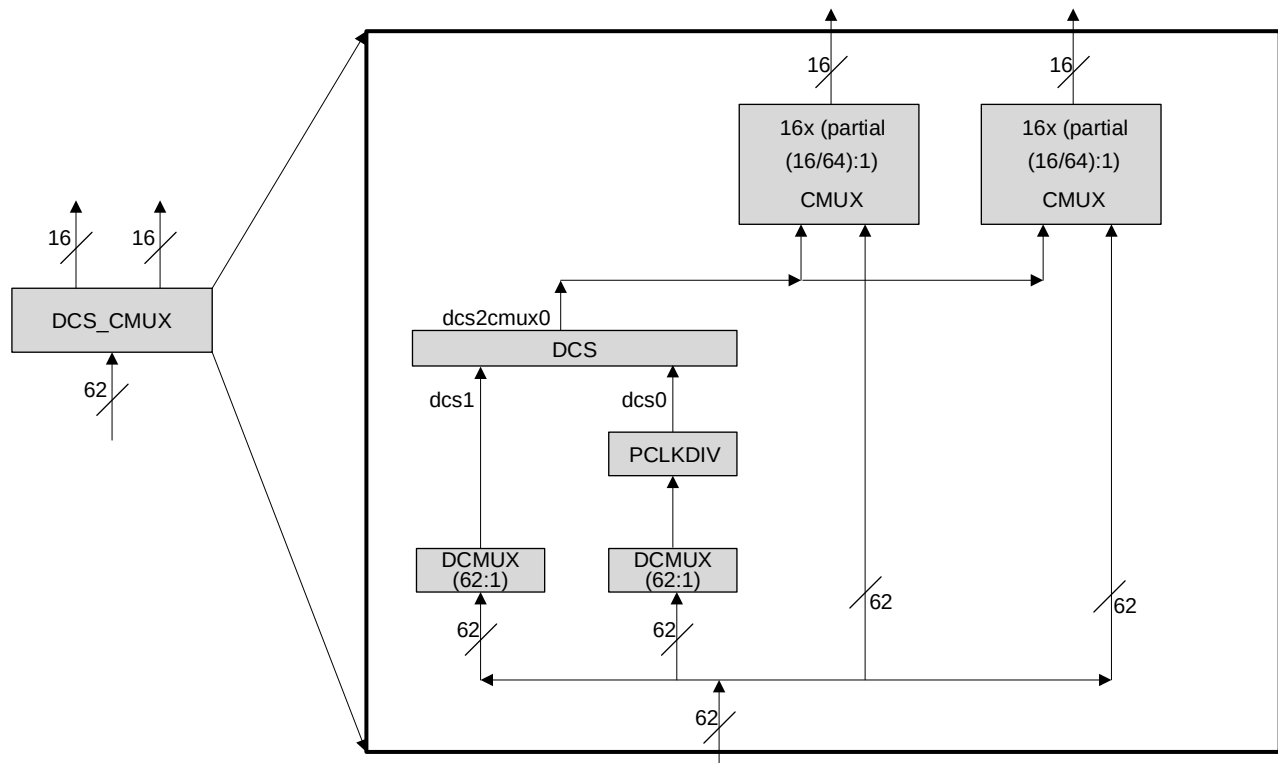

Figure 2.9. DCS_CMUX Diagram
The PCLKDIV supports $\div 2$, $\div 4$, $\div 8$, $\div 16$, $\div 32$, $\div 64$, $\div 128$, and $\div 1$ (bypass) operation. The PCLKDIV is fed from a DCSMUX within the DCS_CMUX block. The clock divider output drives one input of the DCS Dynamic Clock Select within the DSC_CMUX block. The Reset (RST) control signal is asynchronous and forces all outputs to low. The divider output starts at next cycle after the reset is synchronously released. The PCLKDIV is shown in context in Figure 2.9.
All clock sources are selected and combined for primary clock routing through the Dynamic Clock Selector Center Multiplexer logic (DCS_CMUX). There are one (1) or two (2) DCS_CMUX blocks per device. Each DCS_CMUX block contains 2 DCSMUX blocks, 1 PCLKDIV, 1 DCS block, and 1 or 2 CMUX blocks. See Figure 2.9 for a representative DCS_CMUX block diagram.